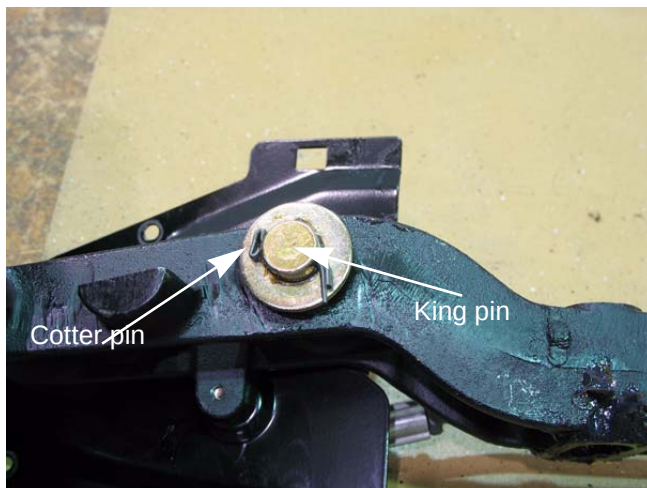

Figure 6.38
- 12b. Push the king pins out of the pivot bar. See Figure 6.38.
13. To re-assemble the pivot bar, start by inserting the steering king pins into the pivot bar. Securing them with new cotter pins. See Figure 6.38.